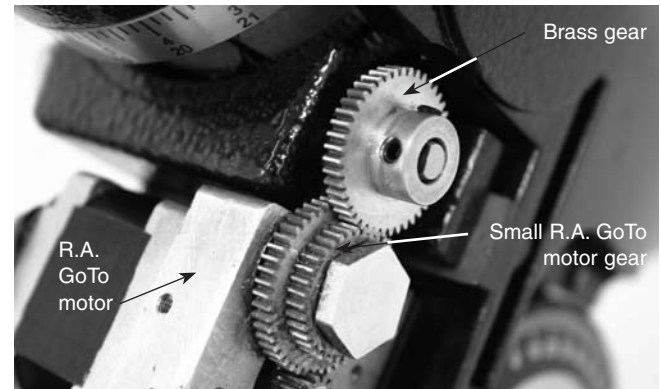

Figure 6. Correctly meshed gears (R.A.)
- Make certain that the teeth of the **smaller** motor assembly gear correctly mesh with the teeth of the brass gear (Figure 6). Also, make certain the gears are not too tightly pressed together. You may have to adjust the way the gears mesh by tightening or loosening the socket-head cap screw that is used to attach the R.A. GoTo motor assembly to the mount and/or the small setscrews on the brass gear. If the gears are not meshed correctly or are too tightly pressed